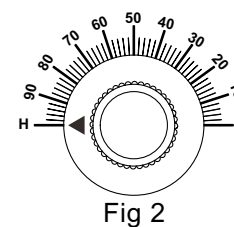

Fig 2
2. Turn the "SENSITIVITY" to the "H" position (Figure 2).